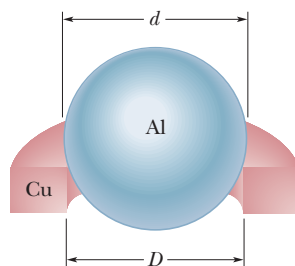

Figure 18-36 Problem 42.
•••42 GO A  $20.0$  g copper ring at  $0.000^\circ\text{C}$  has an inner diameter of  $D = 2.54000$  cm. An aluminum sphere at  $100.0^\circ\text{C}$  has a diameter of  $d = 2.54508$  cm. The sphere is put on top of the ring (Fig. 18-36), and the two are allowed to come to thermal equilibrium, with no heat lost to the surroundings. The sphere just passes through the ring at the equilibrium temperature. What is the mass of the sphere?